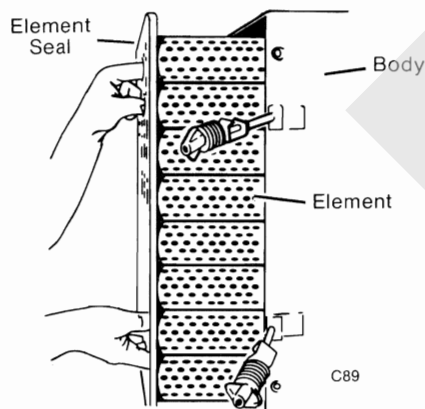

Figure 5 Removing Element
For the tube style, insert fingers in the element openings (see Figure 5). Loosen all four corners one at a time by pulling straight out. It may be necessary to break the seal along the edges of the element. After the seal has been broken, pull the element straight out and slightly up so it clears the sealing edge of the body.
7. Assemble the new element to the body. For the tube style, hold the element in the same manner as when it was removed (see Figure 5). Insert the element in the housing; avoid hitting the element tubes against the body.